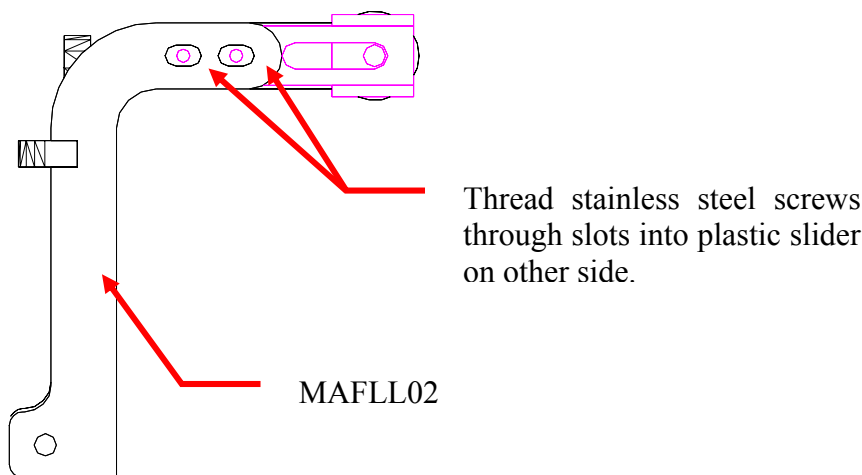

Figure 12. Attach the slider horn with the screws centered, or as right-most as possible in the slotted holes of the MAFL02 (screws are not shown).
2. Attach the shoulder servo horn slider (sliding mechanism of the servo horn HAS-300 in **Figure 2**) to the left forearm link MAFL02 with the two self-taping stainless steel screws WSS25-2 (**Figure 12**). Center the screws in the slotted holes or position them right-most for maximum adjustment on slider.